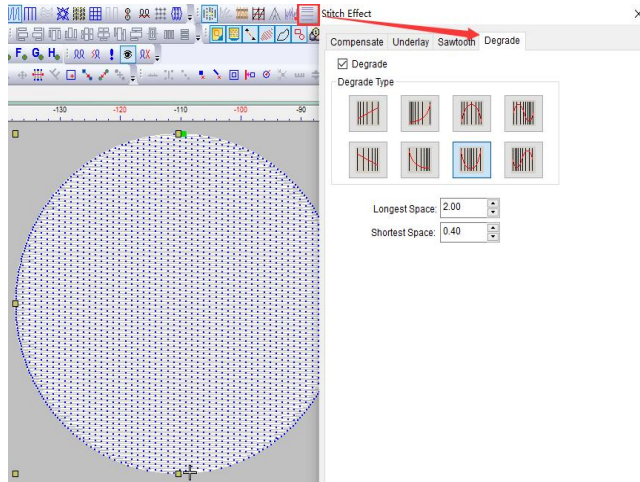

Figure 1
2. Right click on the "Gradient Interval" position and set it. After setting, click OK (as shown in Figure 1).